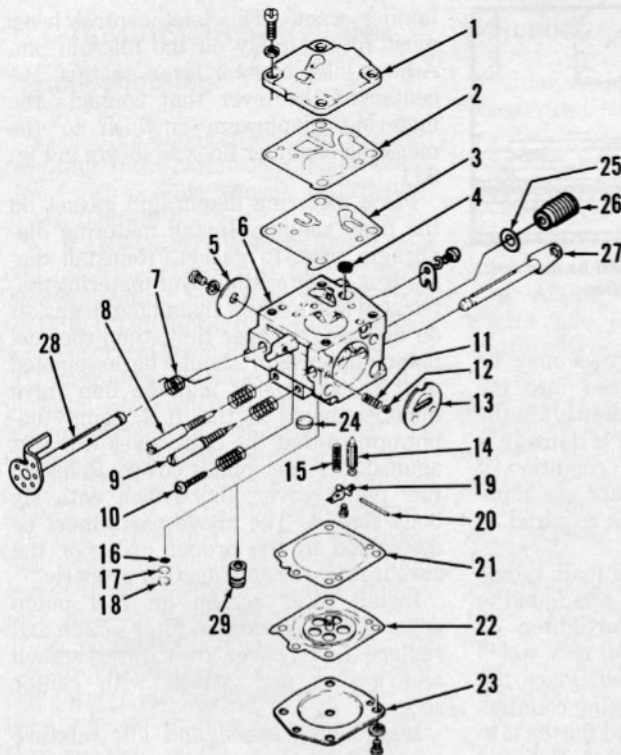
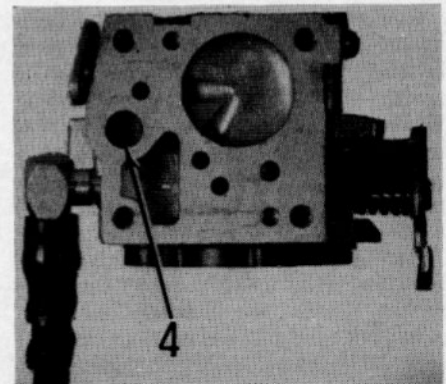
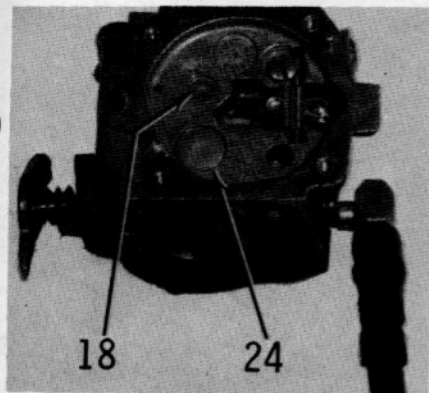
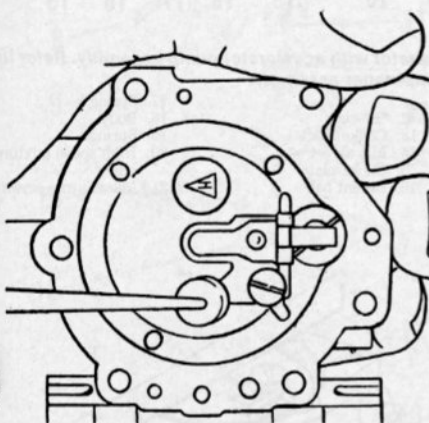

Fig. S12—Exploded view of Tillotson Model HS carburetor.
Fig. S14—Be sure to clean filter screen (4—Fig. S12 or S13) when servicing carburetor.
Fig. S15—View showing location of welch plugs (18 & 24—Fig. S12).
Fig. S16—A punch can be used to remove welch plugs as shown.
OPERATION. Operation of Tillotson Model HS carburetor is covered in CARBURETION section of ENGINE DESIGN. Due to similarity, discussion of operation of HS carburetor will also apply to Model HU. Some Model HS carburetors are equipped with a governor valve (26—Fig. S12) which resonates at a desired engine speed and directs excess fuel into carburetor bore to prevent overspeeding. Governor valve is designed for specific engines and should not be altered.
OVERHAUL. Carburetor may be disassembled after inspecting unit and referring to exploded view in Figs. S12 or S13. Clean filter screen (4—Fig. S14). Welch plugs (Fig. S15) may be removed by drilling plug with a suitable size drill bit and prying out as shown in Fig. S16. Care must be taken not to drill into carburetor body. Some HS carburetors are equipped with a check valve (29) in place of components (16, 17 and 18).
Inspect inlet lever spring (15—Fig. S12 or 19—Fig. S13) and renew if stretched or damaged. Inspect diaphragms for tears, cracks or other damage. Renew idle and high speed adjusting needles if needle points are grooved or broken. Carburetor body must be renewed if needle seats are damaged. Fuel inlet needle has a rubber tip and seats directly on a machined orifice in carburetor body. Inlet needle or carburetor body should be renewed if worn excessively.